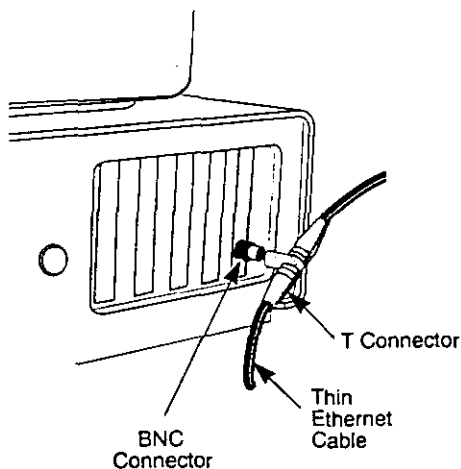

Figure 8. Connecting Thin Ethernet Cable
3. Connect the T connector to the adapter's BNC connector (see Figure 8).